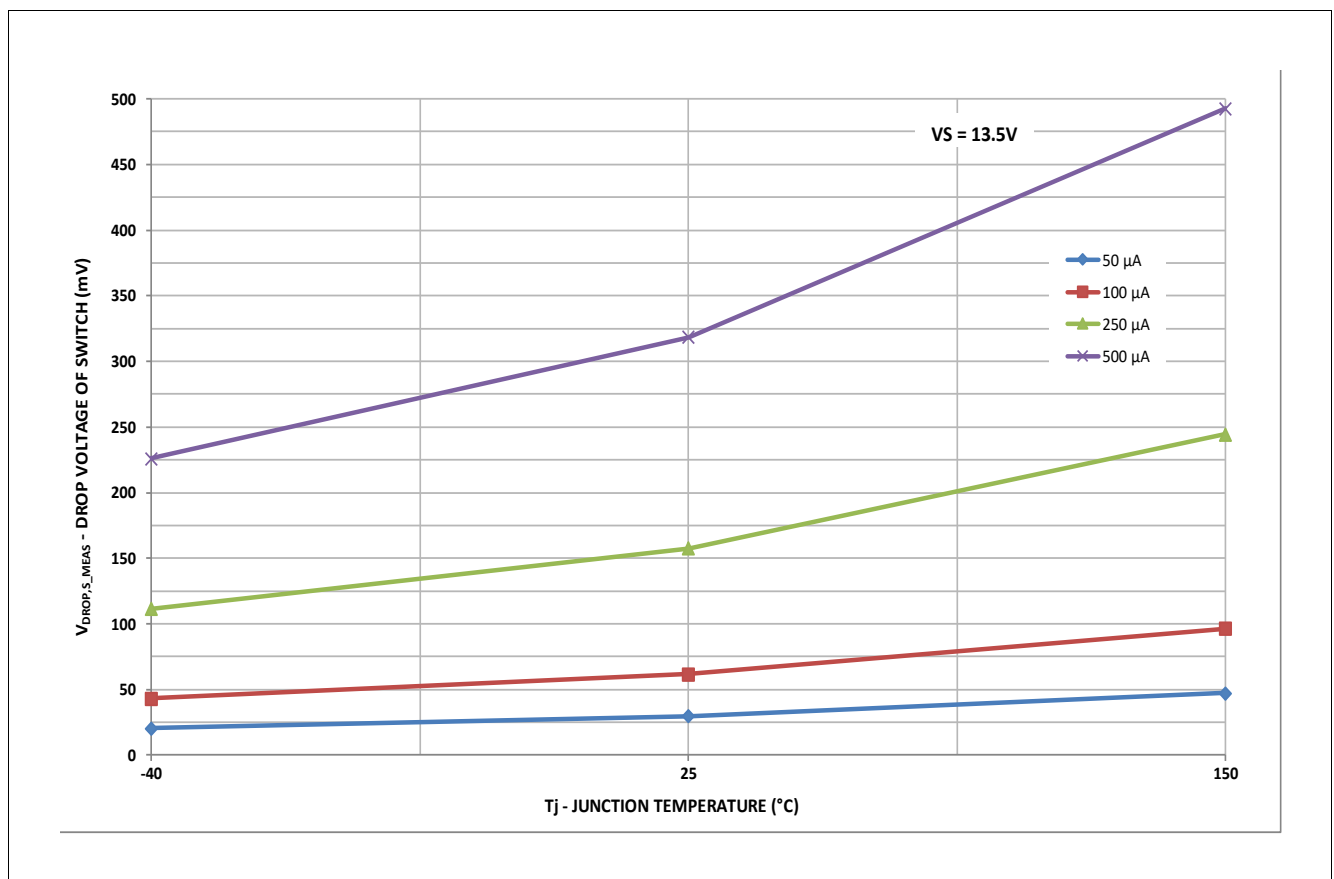

Figure 13 Typical Drop Voltage Characteristics of switch S\_MEAS (between WK/VSENSE & FO/GPIO)
*Note: There is a diode in series to the switch S\_MEAS (not shown in the **Figure 52**), which influences the temperature behavior of the switch. See also **Figure 13**.*